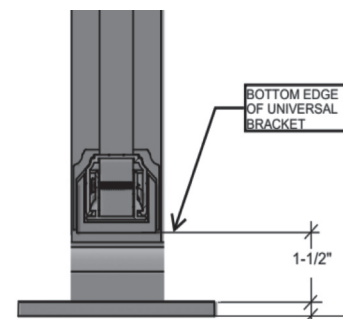

FIGURE 5
Position the bottom universal 2-piece brackets (UMX-BL-2P10801-XX) centered and against the post, measuring from top of the base plate to the bottom of the bracket 1-1/2" (2" from grade to bottom of bracket if no flange plate is used) and secure the bracket to the post with the (2) provided color matching self-drilling screws. Repeat this step for the adjacent posts' bracket (See FIGURE 5).